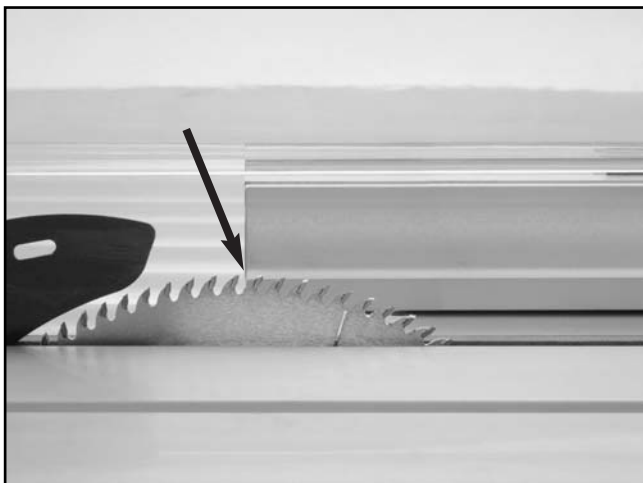

Figure 68. Rip fence set even with center of blade.
4. Slide the leading end of the rip fence so it is even with the center of the main saw blade as shown in **Figure 68**. Note—*This technique allows the finished cut-off piece to “fall” away from the blade when the cutting operation is complete; therefore, reducing the possibility of kickback and preventing the trailing corner of the workpiece from being nicked by the back edge of the blade.*